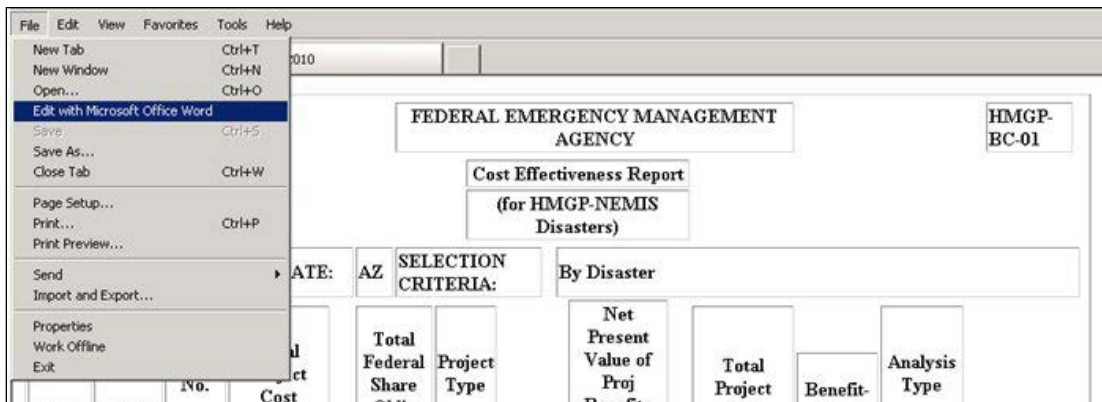

Figure 14-20: Edit HTML File with Microsoft Office Word
- b. On the menu bar of the HTML page, click File > Edit with Microsoft Office Word (Figure 14-20).